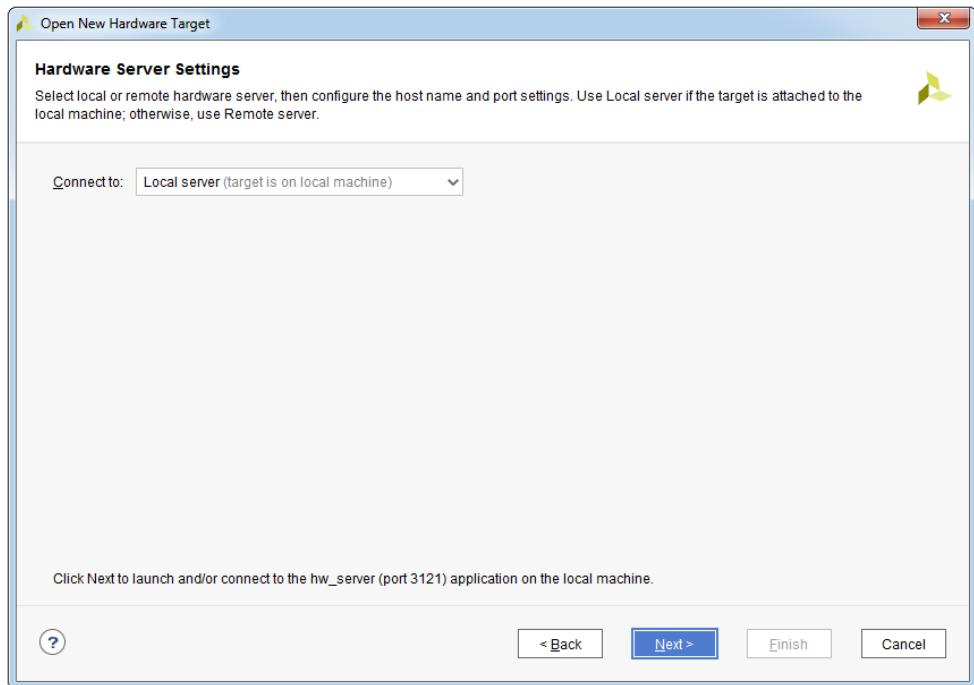

Figure 10.37: Hardware Server Settings dialog box
8. In the **Hardware Server Settings** dialog box, specify or select a local or remote server, depending on what machine your hardware target is connected to. Leave the default **Local server** and click **Next**, see Figure 10.37.